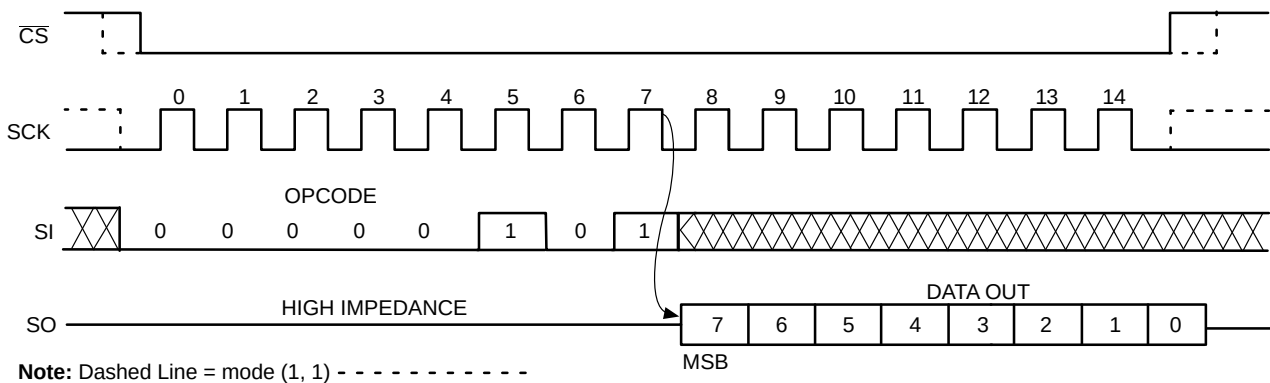

Figure 10. RDSR Timing
Reading the additional 256-byte Identification Page (IP) is achieved using the same Read command sequence as used for Read from main memory array (Figure 10). **The IPL bit from the Status Register must be set (IPL = 1) before attempting to read from the IP.** The [A7:A0] are the address significant bits that point to the data byte shifted out on the SO pin. If the $\overline{CS}$ continues to be held low, the internal address register defined by [A7:A0] bits is automatically incremented and the next data byte from the IP is shifted out. The byte address must not exceed the 256-byte page boundary.
To read the status register, the host simply sends a RDSR command. After receiving the last bit of the command, the EA2M will shift out the contents of the status register on the SO pin (Figure 10). The status register may be read at any time, including during an internal write cycle.